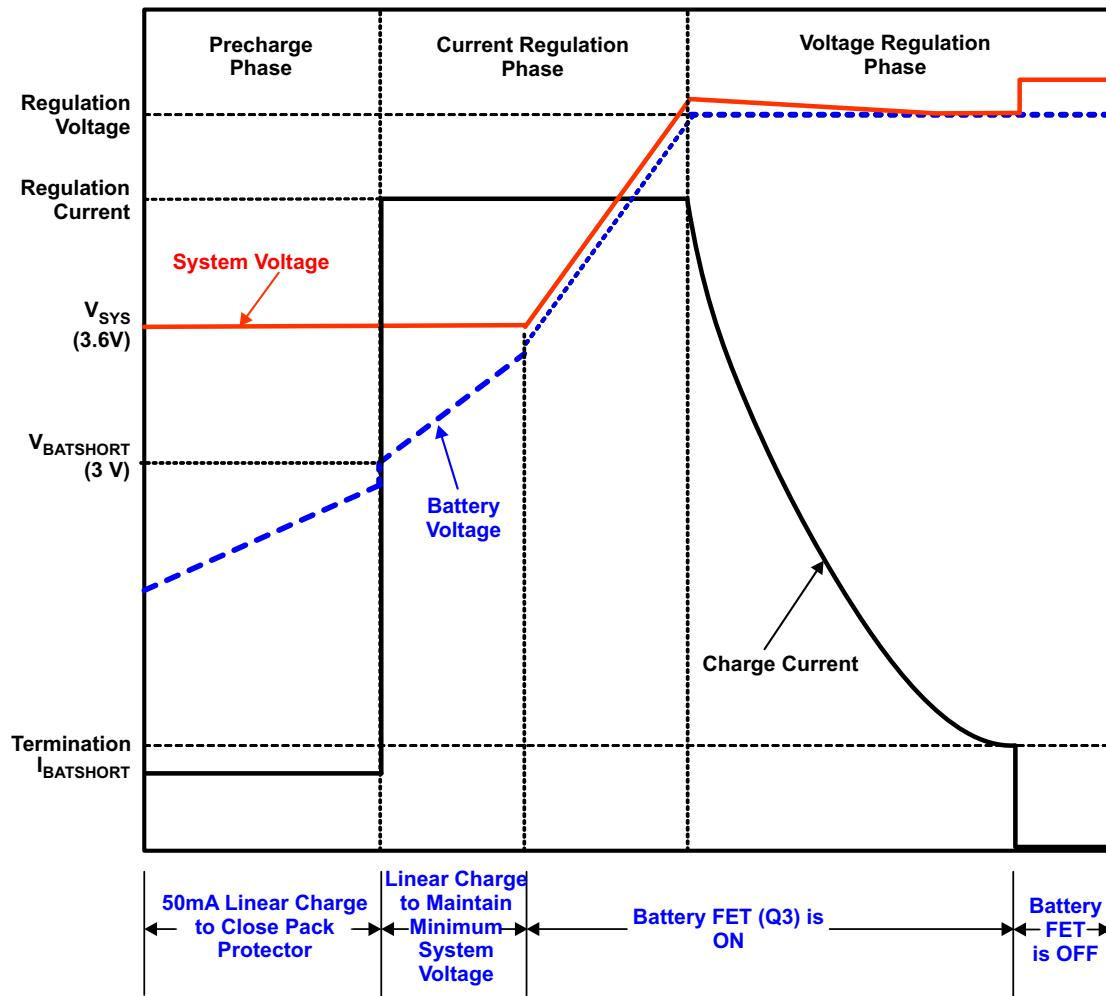

Figure 10. Typical Charging Profile of bq24266
The bq24266 supports a precision Li-Ion or Li-Polymer charging system for single-cell applications. Charging is done through the internal battery MOSFET. There are 6 loops that influence the charge current; constant current loop (CC), constant voltage loop (CV), thermal regulation loop, minimum system voltage loop (MINSYS), input current limit and V_{IN} -DPM. During the charging process, all six loops are enabled and the one that is dominant takes control. The minimum system output feature regulates the system voltage to $V_{SYSREG(LO)}$, so that startup is enabled even for a missing or deeply discharged battery. Figure 10 shows a typical charge profile including the minimum system output voltage feature.
Once the battery is charged enough that the system voltage rises above $V_{SYSREG(LO)}$ (approximately 3.5V), the battery FET is turned on fully and the battery is charged with the full programmed charge current set by ISET. The charge current is regulated to I_{CHARGE} until the voltage between BAT and PGND reaches the regulation voltage. The voltage between BAT and PGND is regulated to V_{BATREG} (CV mode) while the charge current naturally tapers down as shown in Figure 10. During CV mode, the SYS output remains connected to the battery. The impedance of the battery FET is increased to 4x of the fully on value when IBAT falls below ~350mA to provide increased accuracy during termination. This will show a small rise in the SYS voltage when the $R_{DS(ON)}$ increases below ~350mA.